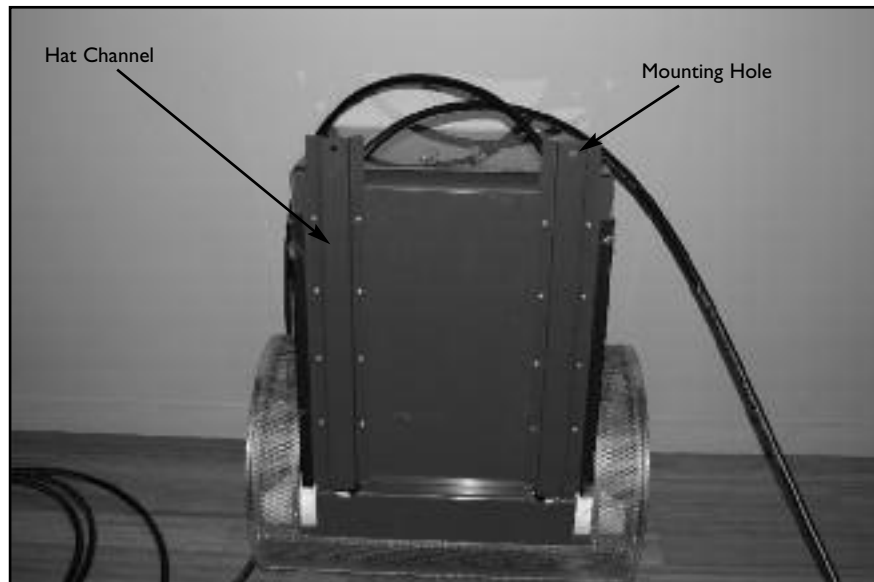

Fig. 9.5
- 9.7** Carefully lay the Fastlane onto its front face. Run the hydraulic hoses up the back of the upper housing. The two hat channels will be placed over the hydraulic hoses. Make sure that the mounting hole in the end of the hat channel is facing up and that the bottom of the hat channel has been inserted into the notch in the cylindrical base. Use the provided 3/4" machine screws to attach the hat channels to the upper housing. There will be eight screws per hat channel (Fig 9.5).